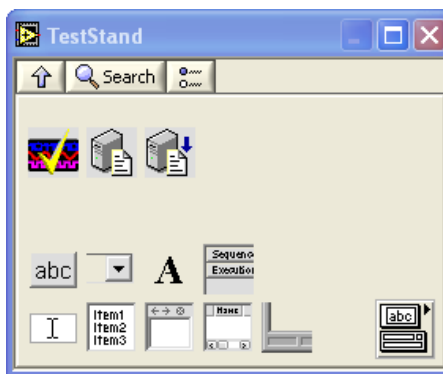

Figure 6-1. User Interface Controls Palette
The TestStand User Interface (UI) Controls are located in the **Controls»All Controls»TestStand** palette in LabVIEW, which is illustrated in Figure 6-1.